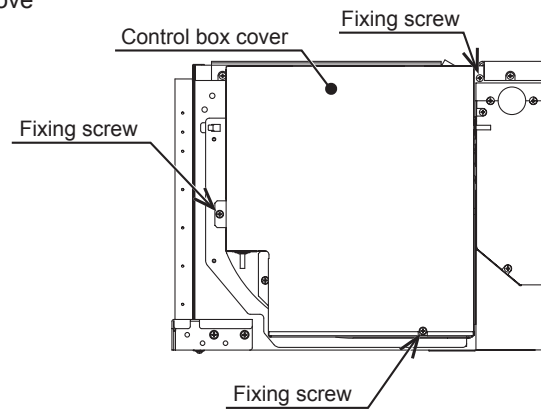

Fig. 3-1
- (1) Remove the fixing screws (3 locations) shown in Fig. 3-1, and remove the control box cover.